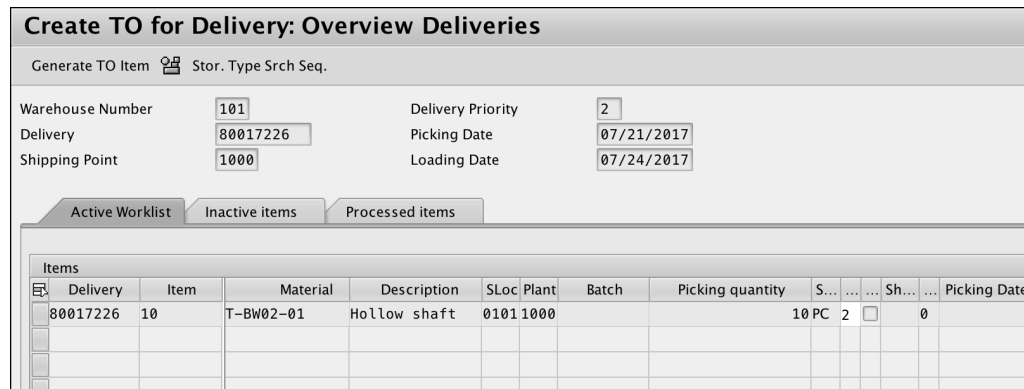

Figure 4.27 Create TO for Delivery: Overview Deliveries Screen
2. If you choose to run this transaction in the foreground, you'll be prompted to create a transfer order for each delivery, as shown in Figure 4.27. Because we normally process hundreds or thousands of deliveries, it's a good idea to run it in the background.